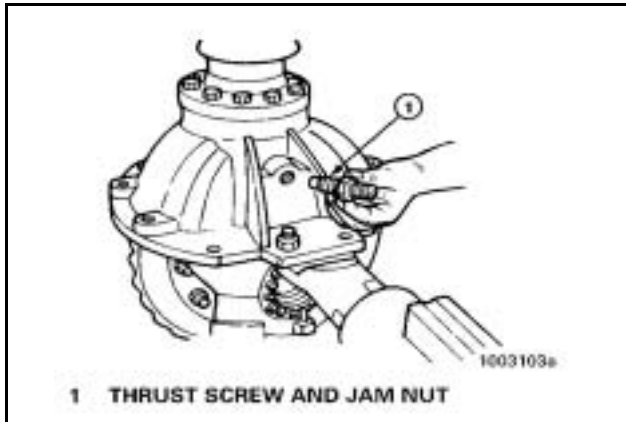

Figure 124
2. Install the jam nut* on the thrust screw*, one half the distance between both ends. **Figure 124.**